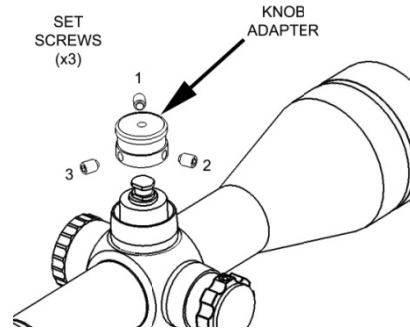

Figure 2-5
4. Place the knob adapter over the elevation post. Apply slight downward pressure to ensure that all set screws (3/32in Allen) are seated below the outside diameter of the knob adapter and tighten evenly. Use Loctite® if desired. Figure 2-5.